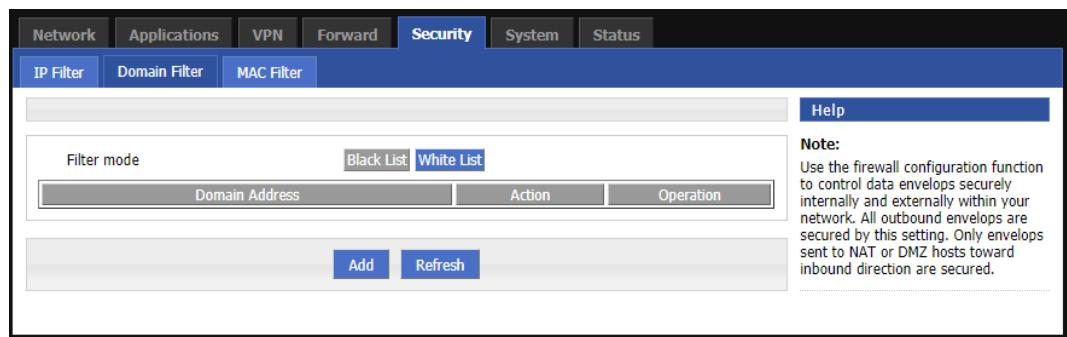

Figure 5-30 Domain name filter tab
Step 2 Click Security Settings>Domain Name Filter to open the Domain Name Filter tab, as shown in Figure 5-30.